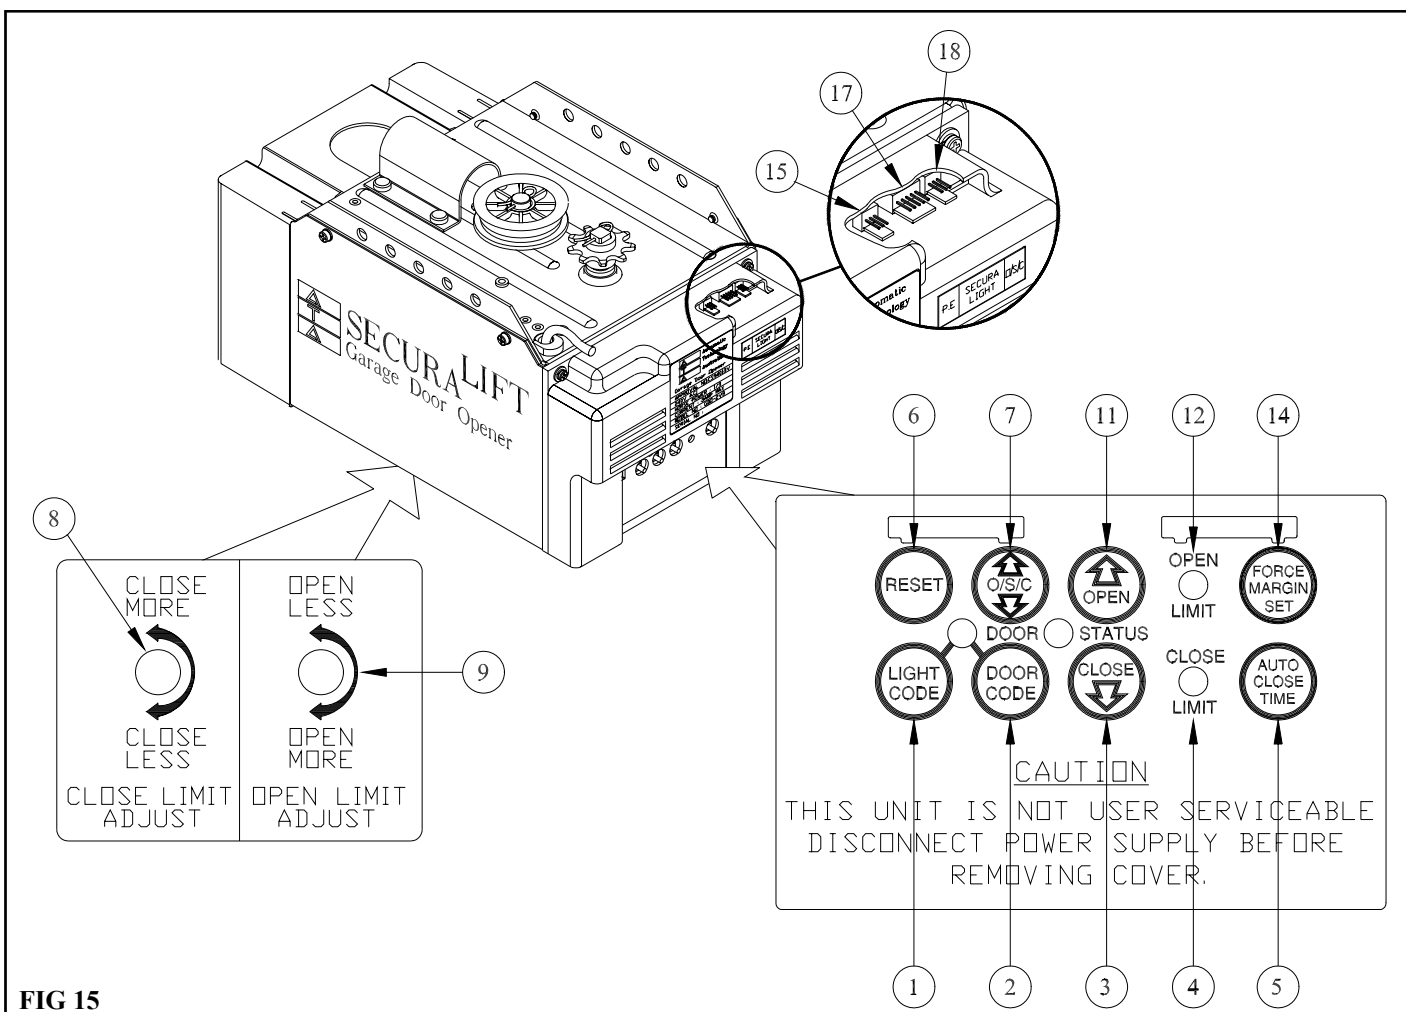

FIG 15
4. Depress open green button 11 and hold it on until the door reaches the open position. (FIG. 15)
When the doors desirable open position is reached, release button and door will stop. Turn open limit adjustment screw 9 in anti clockwise direction till green light indicator 12 comes on. (FIG. 15)
5. Depress close red button 3 and hold it on till the door reaches the desirable close position, then release the button and the door will stop. Turn the limit adjust screw 8 in clockwise direction till the red indicator 4 comes on. (FIG. 15).